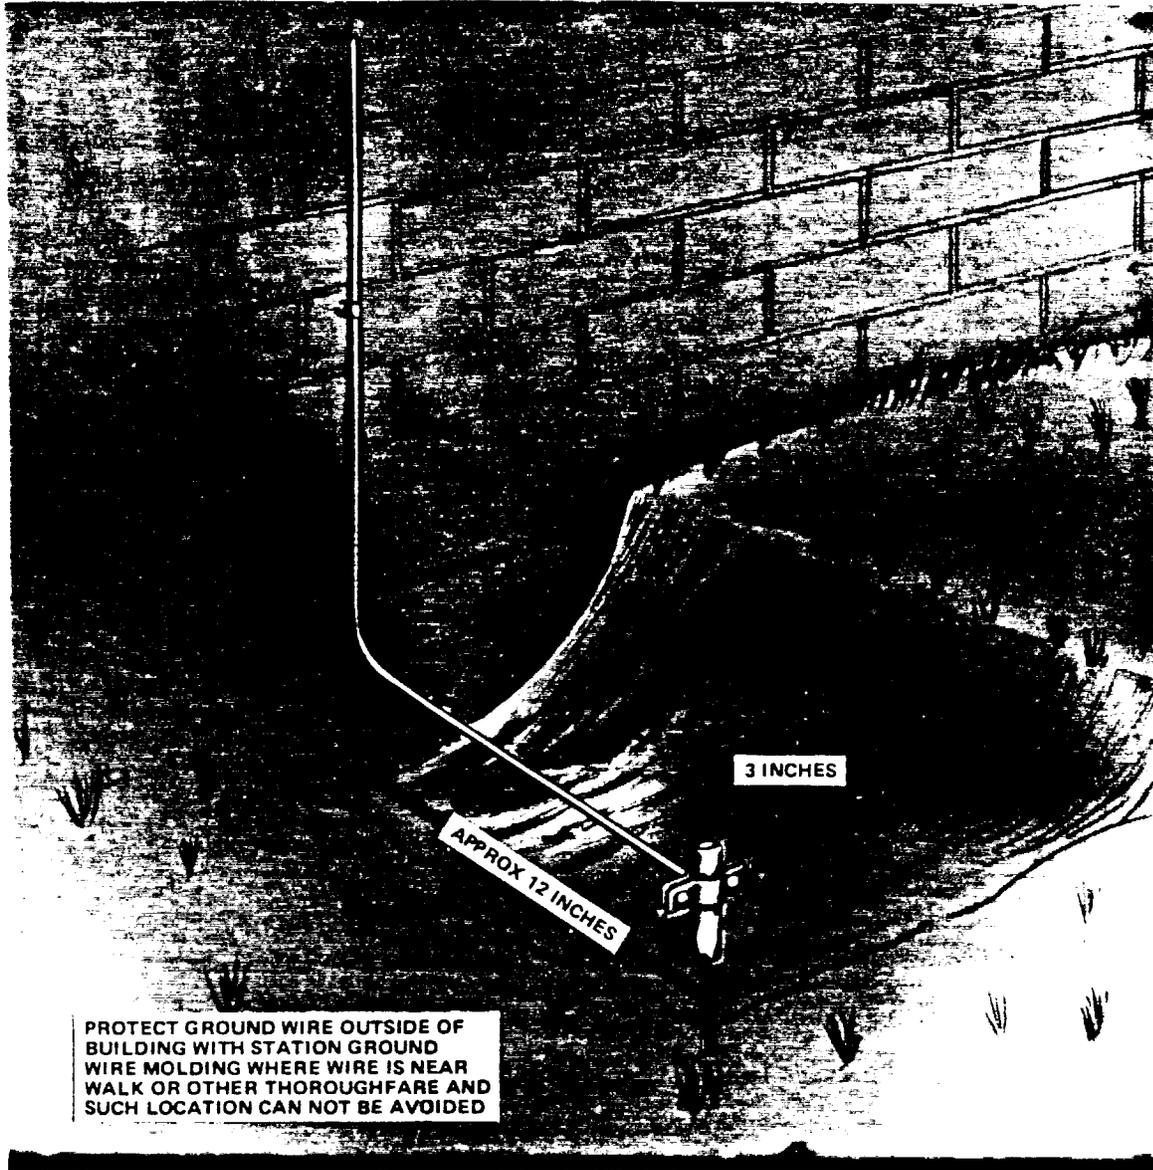

Figure 70—E Ground Rod Installed Near Wall
- (c) Approximately 12 inches from outside walls (Figure 70)